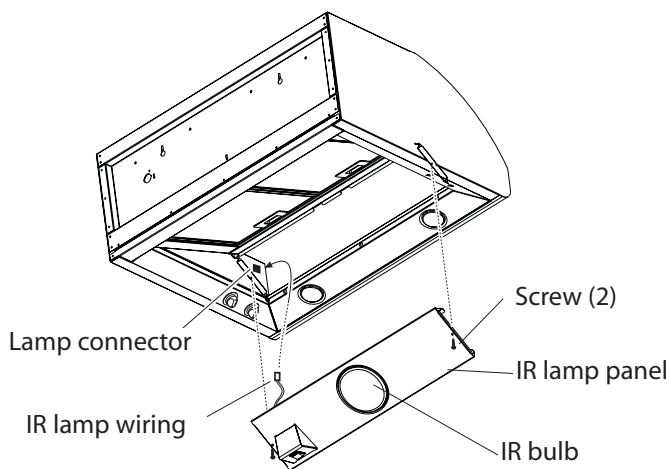

Fig. 01
2. Remove the original panel by unscrewing the two side screws (see Fig. 01)